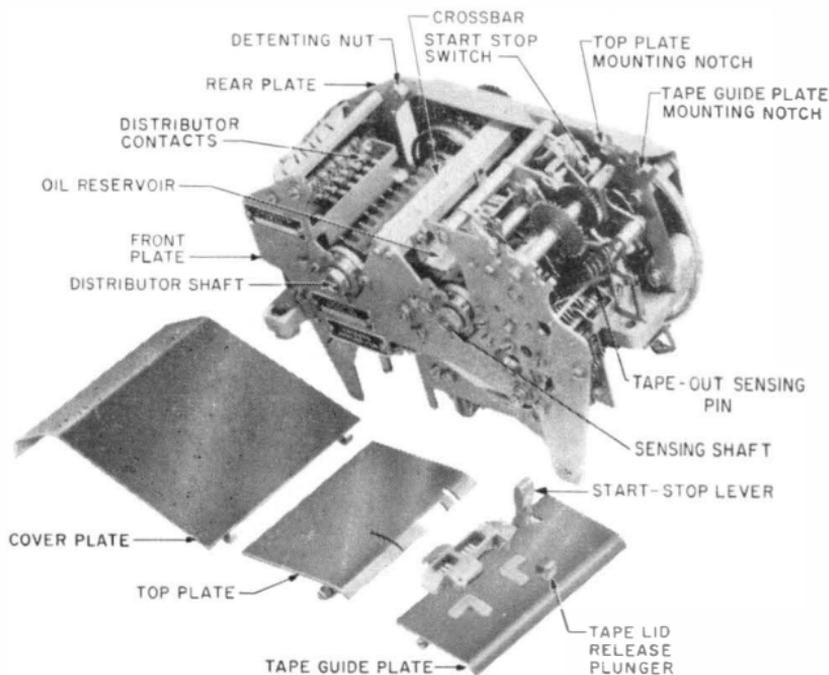

Fig. 2—Sensing and Transmitting Mechanism—Top View
- (4) Lift the oil reservoir upward and remove from the transmitter-distributor unit. (See Fig. 2.)
2.10 **Distributor-shaft Assembly:** To remove the distributor shaft, remove the three mounting screws that secure each bearing clamp to the front and rear plates. (See Fig. 2.)
(1) Observe the alignment requirement given in the section containing the requirements and adjustments for the 28F, 28G-type, 28LA, and 28LB transmitter-distributor units.
2.11 **Sensing-shaft Assembly:** To remove the sensing shaft, remove the three mounting screws that secure each bearing clamp to the front and rear plates. (See Fig. 2.)